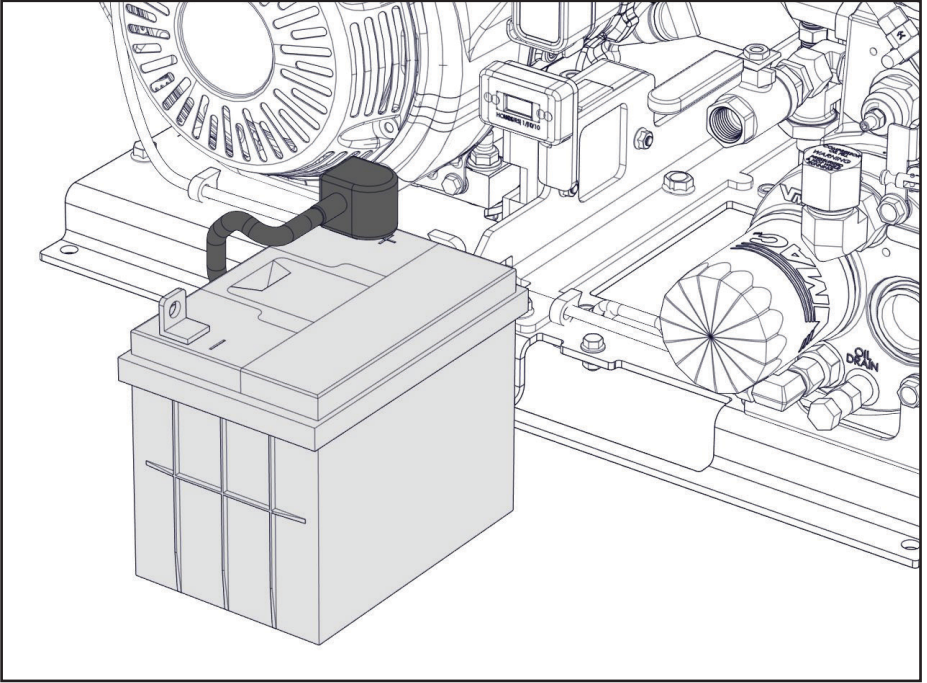

Figure 70 — Battery removal
- Pull the battery out of the front of the unit, once it is clear, disconnect the positive battery terminal (Figure 70).